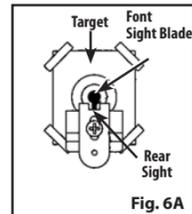

Fig. 6A
4. The airgun is correctly aimed when the front sight blade is positioned exactly in the center of the notch of the rear sight. The top of the front sight blade should be even with the top of the notch in the rear sight. The bull's-eye should appear to rest on the top of the front sight (Fig. 6A).